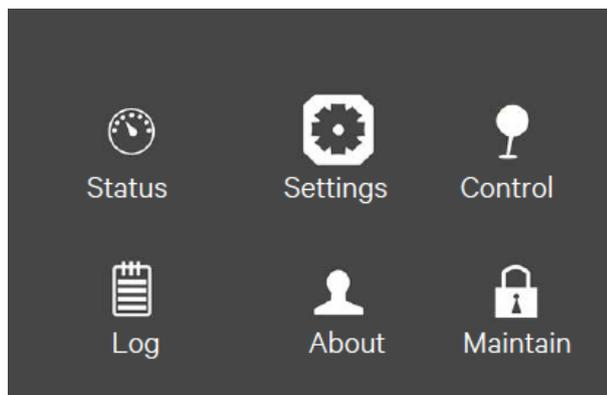

Figure 5-13 Main menu
1. At the main menu screen, press the  or  key to switch the cursor to select 'Settings', then press the  key to confirm it. See Figure 5-13.